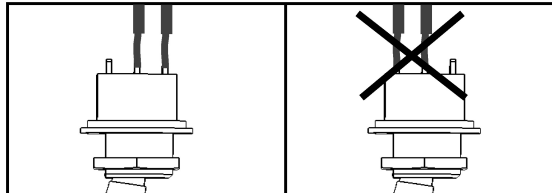

Figure 6: Orientation of the ON/OFF/P switch
- The switch wires are correctly oriented, as shown in Figure 6.